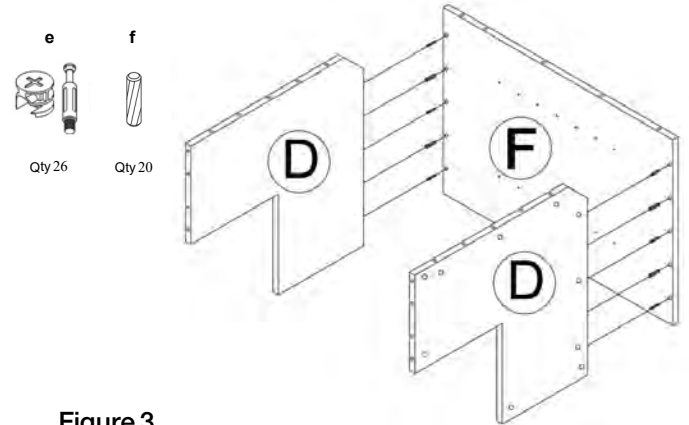

Figure 3
3. Install metal male cam locks (e) into designated holes on side panel (C) and bottom panel (D). Use screwdriver to tighten. Install the wooden dowels (f) into designated holes. (Figure 3)
4. Install the Top & Bottom panels (D) onto back panel (F). (Figure 3)